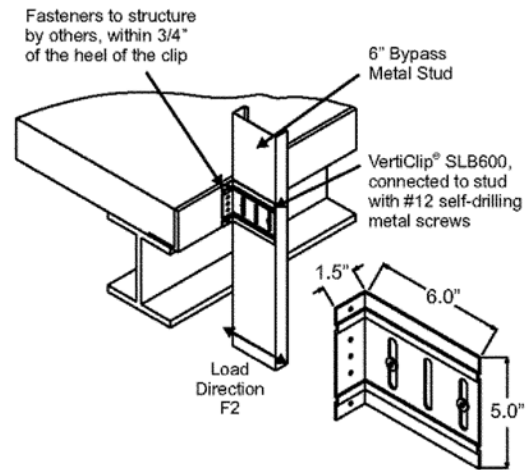

FIGURE 2 - VERTICLIP SLB600
3.1.3 VertiClip® SLB: The VertiClip SLB600 is an L-shaped angle that connects 6-inch-deep (152 mm) exterior curtain wall steel studs to a concrete floor slab's pour stop angle while allowing a maximum of 2 inches (51 mm) of vertical movement between exterior wall elements and the primary structure. The minimum base-metal thickness of the clip is 0.0677 inch (1.7 mm). The long leg of the connector, which is fastened to the curtain wall stud, has three vertical slots, each 3³/₈ inch (9.5 mm) wide by 2³/₈ inches (60.3 mm) long. Refer to Figure 2 for overall dimensions of the VertiClip SLB600 connector and a typical installation detail.